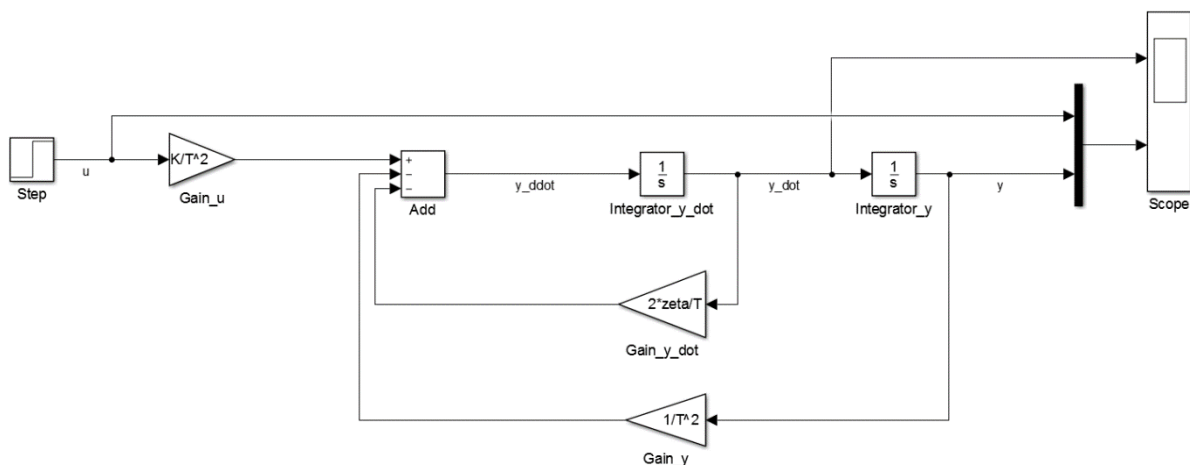

Figure 1-3: Complete PT2 system
(8) Connect the blocks to obtain the diagram as shown in Figure 1-3.